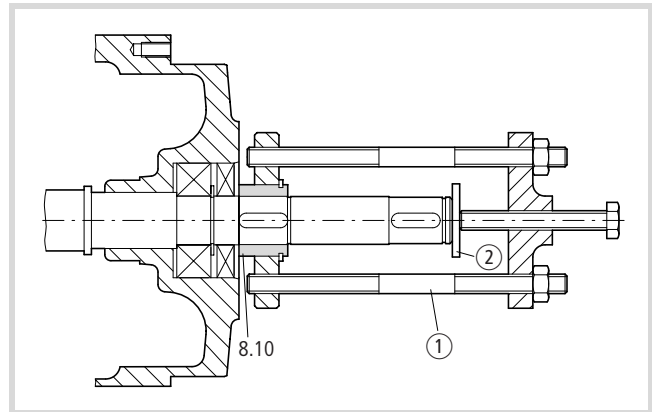

Figure 6: Removing the friction plate driver (8.10)
- ▶ Remove the friction plate driver (8.10) with the extractor ① (→ Fig. 6).